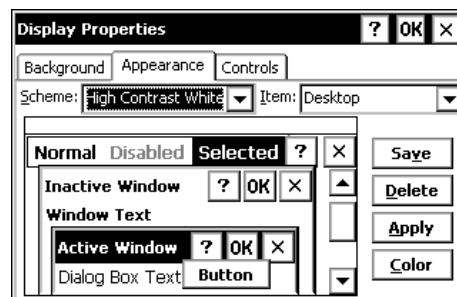

Figure 1-5. Display Properties
- 2 Tap the **Appearance** tab (Figure 1-5). Select **High Contrast White** in the *Scheme* field and **Desktop** in the *Item* field.